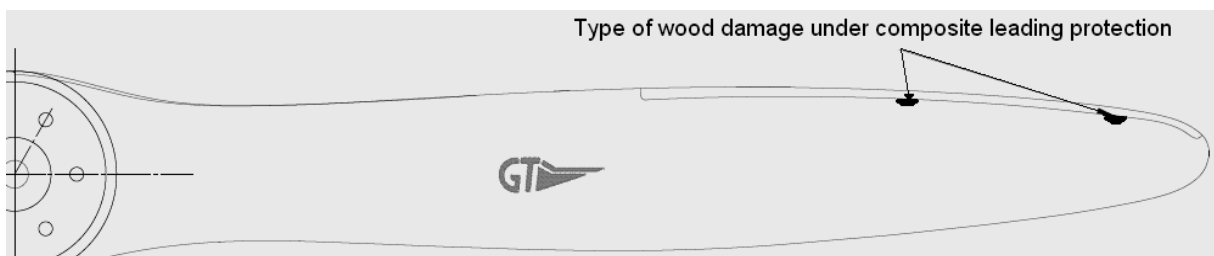

Fig. 6-1 KIND OF WOOD DEFORMATIONS UNDER THE TIPPING
3. Because of the extremely elasticity and resistance of the amino polymer composing the tipping it is possible that some damages are not visible. The amino polymer in fact, come back in its original state even after very violent hits. Such hits are underlined with a wood deformations (see Fig. 6-1). To be sure of that, accurately check the boundary zone between the tipping and the wood of the blades.